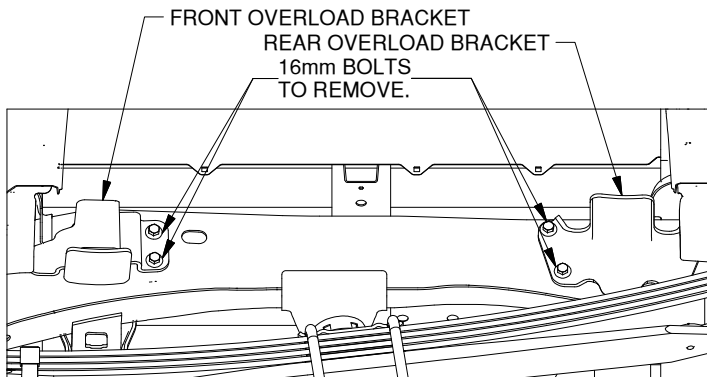

Figure B2: View looking into driver side wheel well.
2. **Check for overload brackets.** Look under the truck and see if there are overload brackets attached to the frame over the leaf suspension, as shown in Figure B2. If your truck does not have overload brackets you may skip to step 4. If your truck does have overload brackets continue to step 3.
3. **Remove overload bracket hardware.** Remove the 16mm bolts indicated in Figure B2. The bolts attaching the rear overload bracket are attached with nuts inside the frame, these will need to be removed as well. The overload brackets do not need to be completely removed.